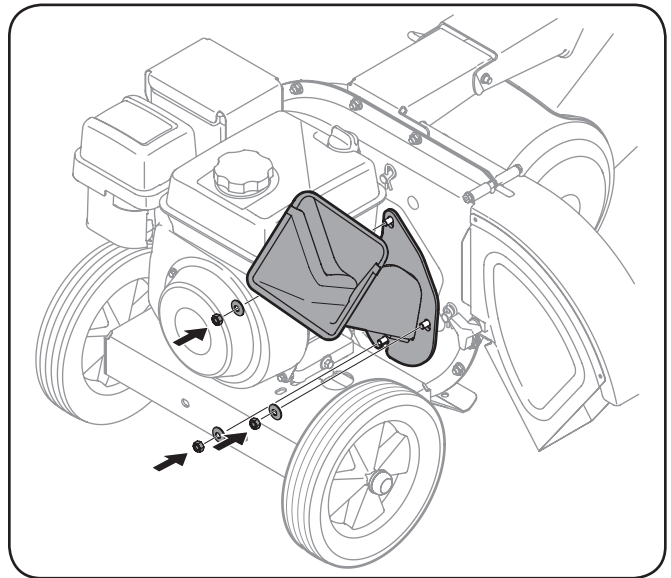

Figure 3-6
- Align the chipper chute over the weld studs, so the slot in the bottom of the chute is facing down. See Figure 3-6.
- Secure chipper chute with the three cupped washers (*cupped side against the chipper chute*) and hex nuts previously removed. See Figure 3-6. Tighten the nuts at this time.